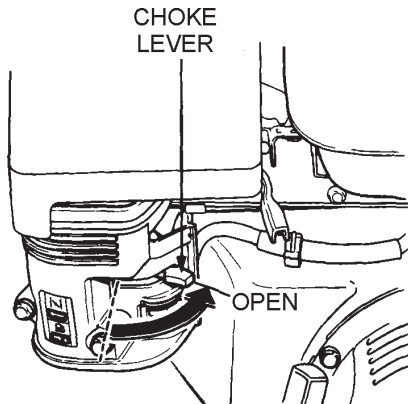

Figure 13. Choke Lever (Open)
- If the engine has started, slowly return the choke lever (Figure 13) to the "OPEN" position. If the engine has not started repeat steps 1 through 6.